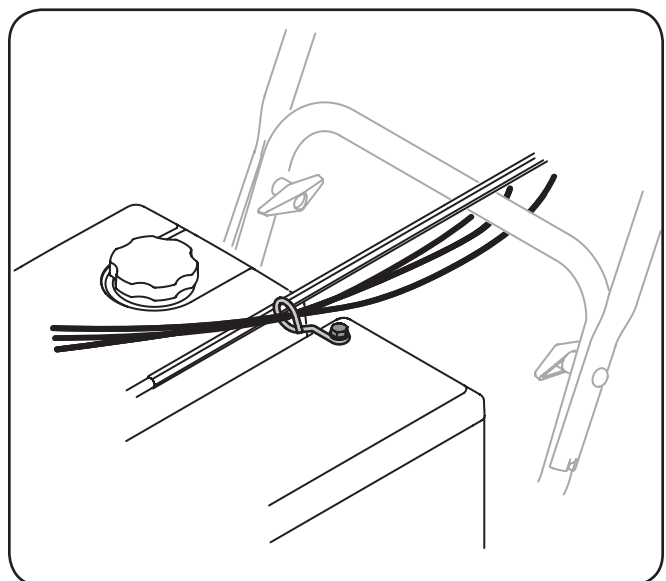

Figure 3-17
9. Check that the cables are properly routed through the cable guide on top of the engine. Some models only have one cable to route through the cable guide. See Figure 3-17.